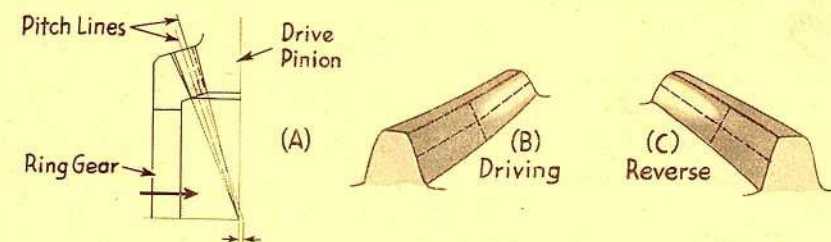

Fig. 3 Excessive Toe Contact
tooth, as shown in Figure 3 (B) and (C) respectively, increase the backlash between the gears, keeping it under .012 in., however, by moving the ring gear away from the drive pinion. This may also change the profile or top-to-bottom contact slightly which should be corrected by adjusting the pinion as explained later.